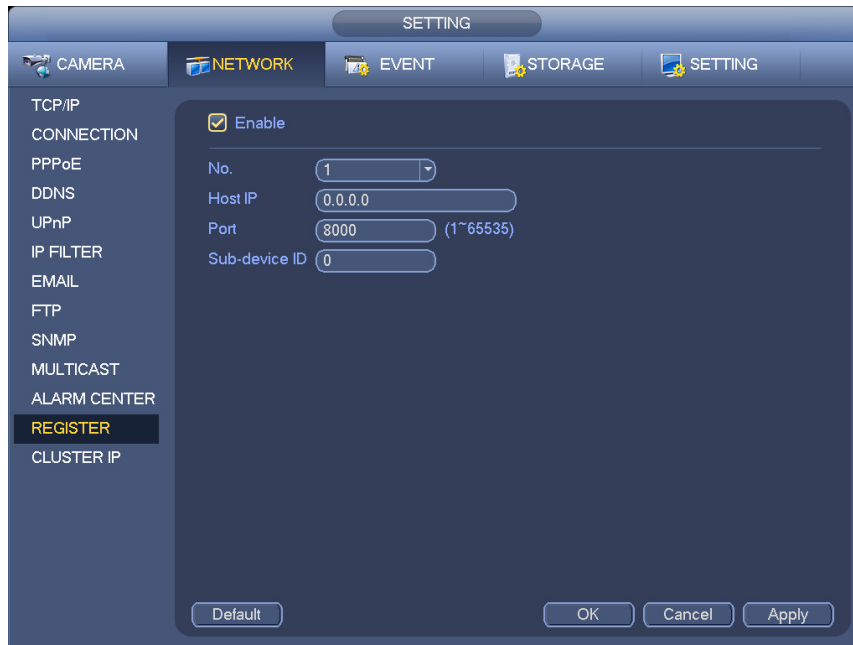

Figure 3-108
1) The setup interface is shown as in Figure 3-108.
3) Now you can add device. Please do not input default port number such as the TCP port in the mapping port number. The device ID here shall be the same with the ID you input in Figure 3-108. Click Add button to complete the setup.